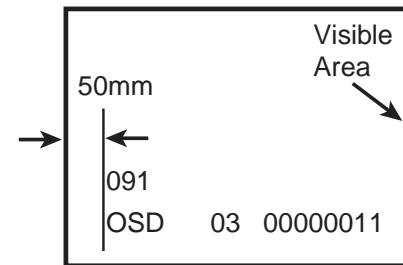

Figure 9.
6. Adjust the + or – key for proper position shown in Figure 9. To turn off the Service Menu display, press the MENU key